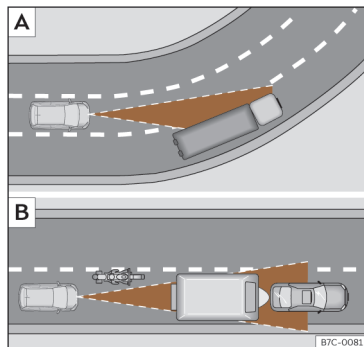

Fig. 174 [A] Vehicle on a bend. [B] Motorcyclist ahead, out of range of the radar sensor. »
The ACC may not detect the vehicle in front on a curve, or may regulate the distance from vehicles in other lanes >>> **Fig. 174** [A].
- Vehicles that are not aligned while driving or that are outside the sensor's detection area, such as motorcycles >>> **Fig. 174** [B].